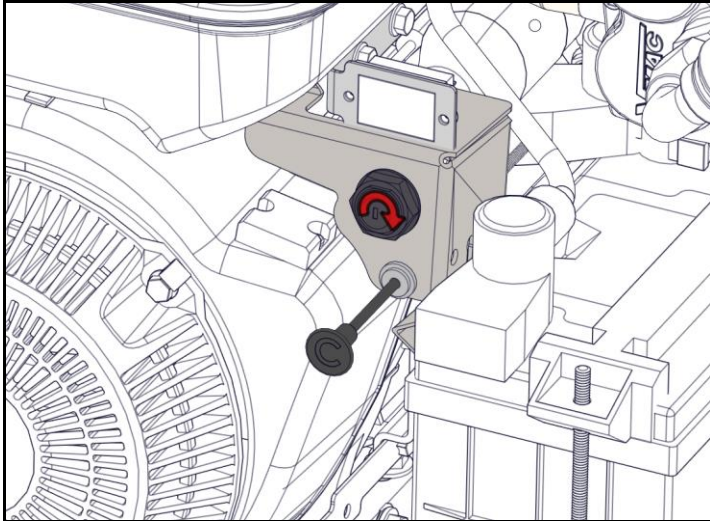

Figure 23 – Key switch
- 1) Turn the key switch to the “RUN” position (Figure 23).